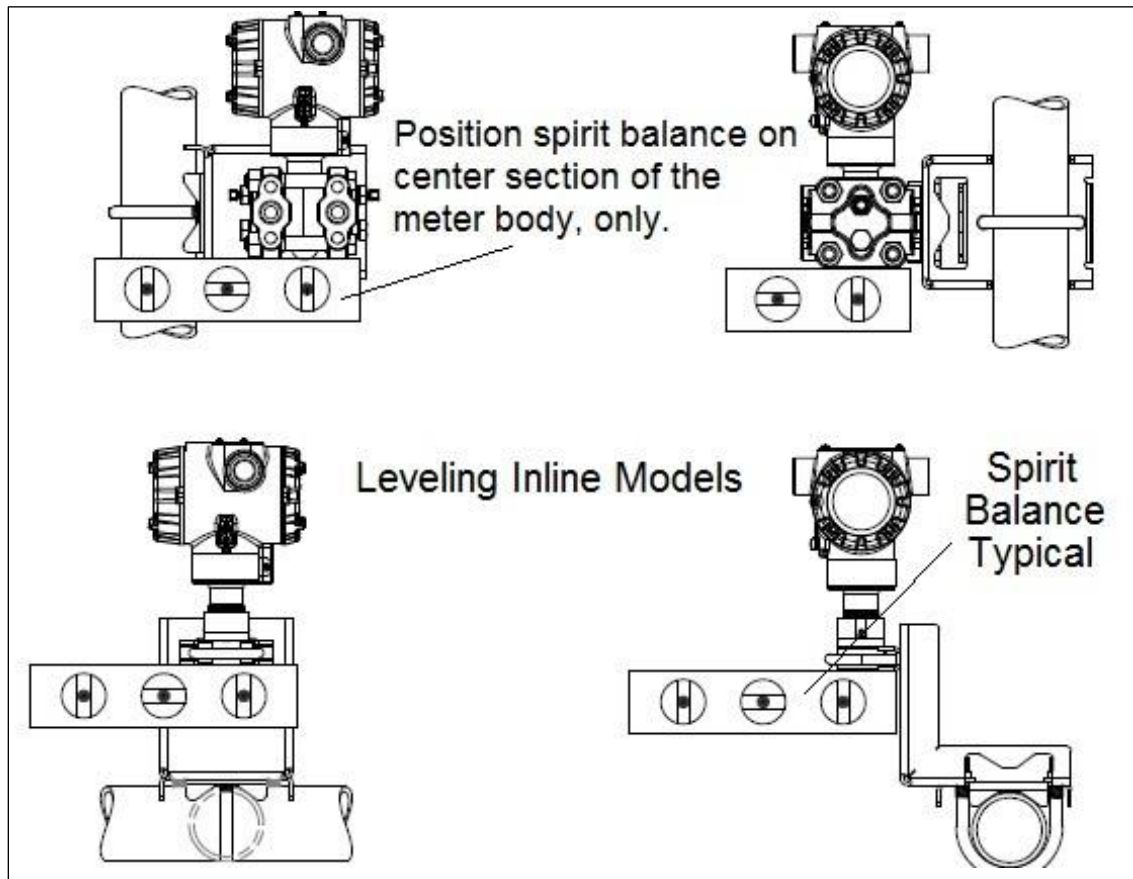

Figure 48 – ST 700 Basic Transmitter, using a Spirit Balance to Level a Transmitter
Once the transmitter is mounted, the electronics housing can be rotated to the desired position. See Figure 48 for details.
3. Loosen the set screw on the outside neck of the transmitter one (1) full turn.
4. Rotate the Electronics housing a maximum of 180° left or right from the center to the position you require, and tighten the set screw using a 4mm metric socket head wrench. See the following example and Figure 48.